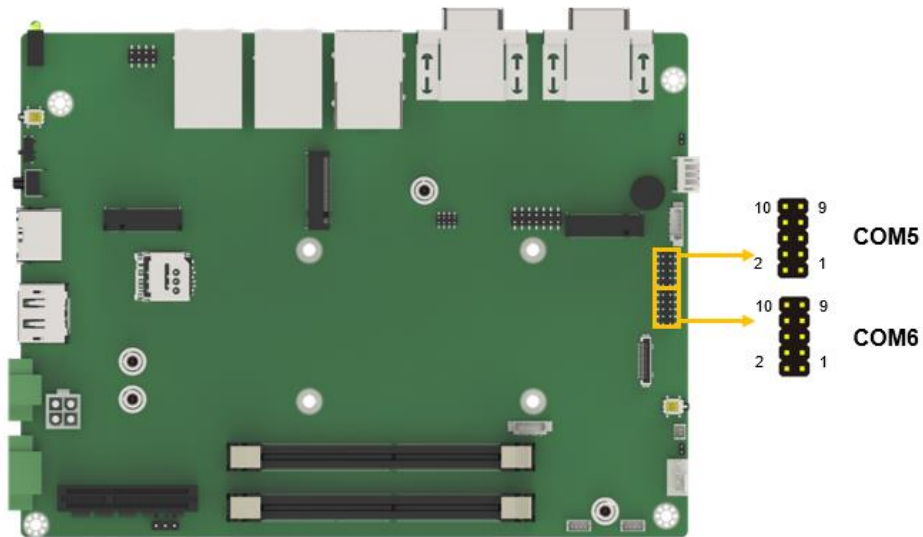

Figure 4-13: RS-232 Serial Port Connector Location
- CN Location:** See **Figure 4-13**